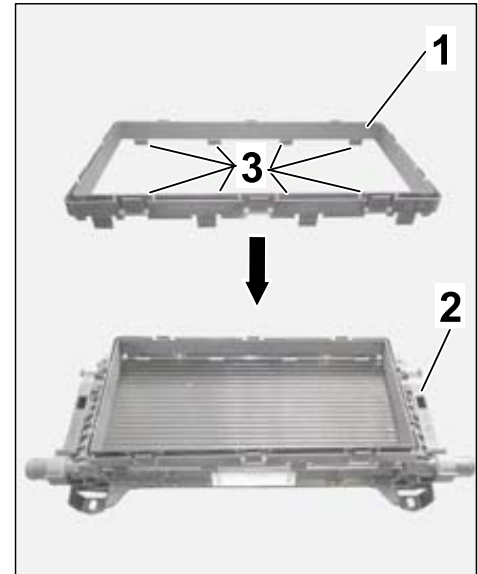

Figure 13
- 3.1.7 Clip sealing frame $\Rightarrow$ Figure 13 -1- into retaining frame $\Rightarrow$ Figure 13 -2-.
Make sure that the clips $\Rightarrow$ Figure 13 -3- lock securely.